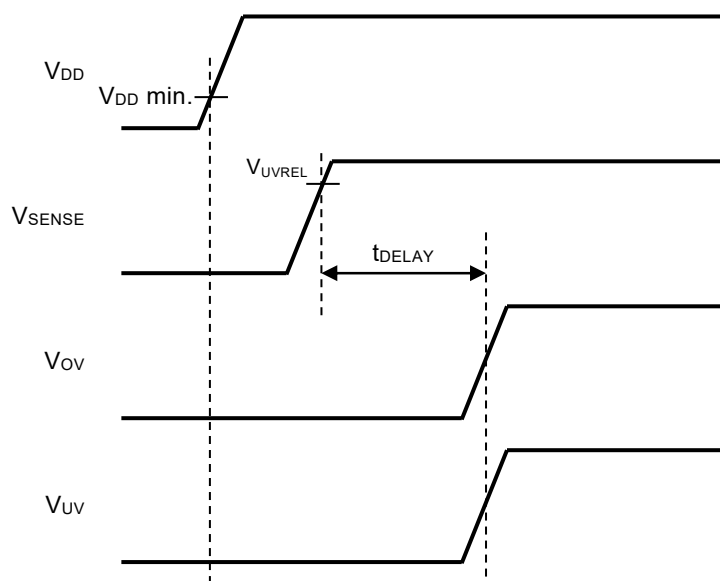

Figure 20
- (1) Order of VDD pin and SENSE pin (Refer to **Figure 20**)
- (2) VDD pin and SENSE pin at the same time